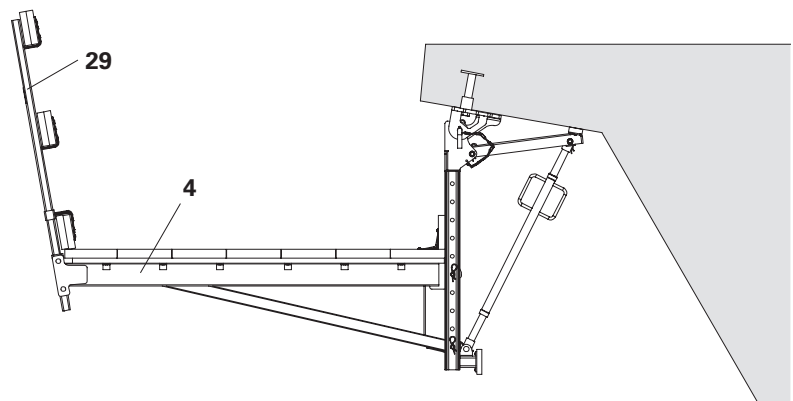

Fig. B2.02
1. Insert Guardrail Post HSGP-2 (**29**) into all Platform Cantilever Beams VGK 170 (**4**). (Fig. B2.02)